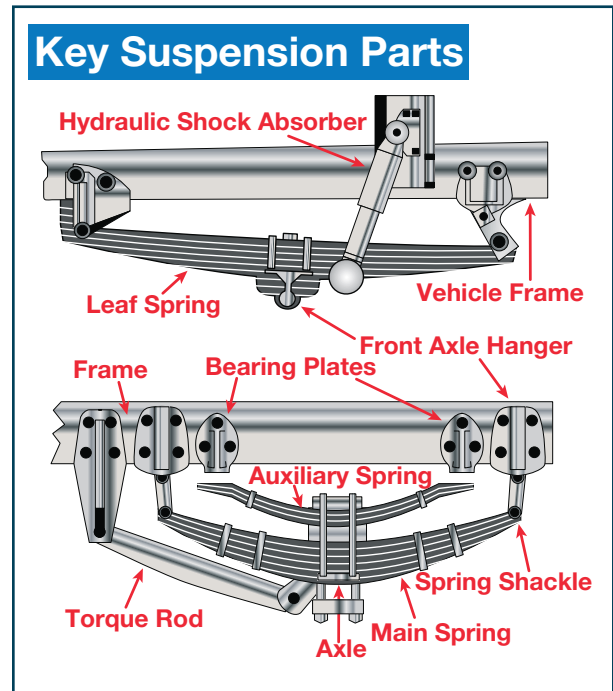

Figure 2.2
- Spring hangers that allow movement of axle from proper position (See Figure 2.2.);